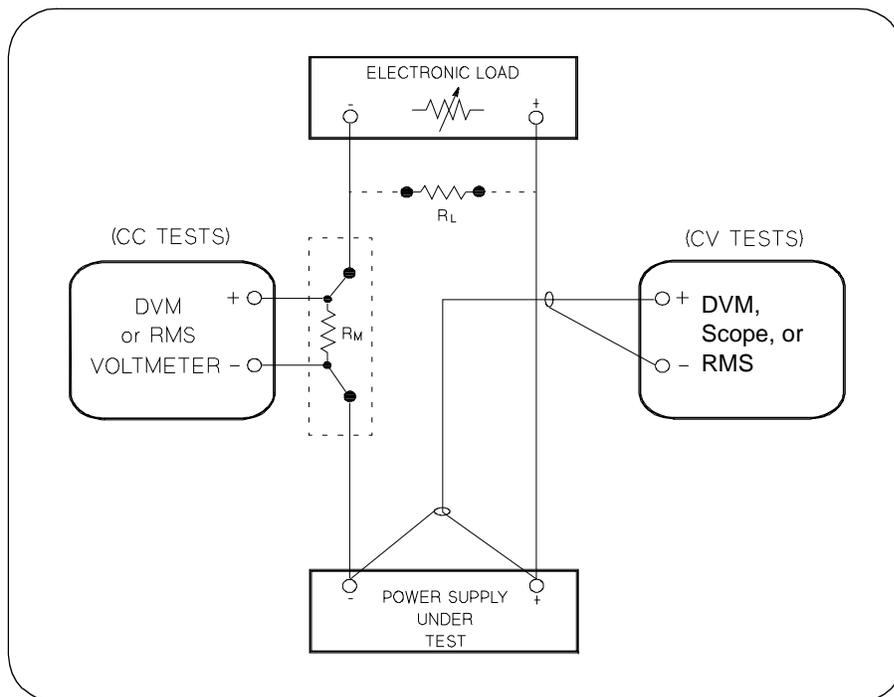

Figure A-1 Performance Verification Test Setup
Most tests are performed at the front terminals as shown in Figure A-1. Measure the dc voltage directly at the (+) and (-) terminals on the front panel.
To eliminate output current measurement error caused by the voltage drops in the leads and connections, connect the current monitoring resistor between the (-) output terminal and the load as a four-terminal device. Connect the current-monitoring leads inside the load-lead connections directly at the monitoring points on the resistor element (see R_M in Figure A-1).
- 1 Turn off the power supply and connect a digital voltmeter between the (+) and (-) terminals of the output to be tested as shown in Figure A-1.
- 1 Turn off the power supply and connect a digital voltmeter between the (+) and (-) terminals of the output as shown in Figure A-1.
- 4 Operate the electronic load in open mode (input off). Record the output voltage reading on the digital voltmeter immediately. The difference between the digital voltmeter readings in steps (3) and (4) is the CV load regulation. The difference of the readings during the immediate change should be within the limit of (5 mV)^{*} or (9 mV)^{**}.
- 6 Adjust the transformer to high line voltage (127 Vac for nominal 115 Vac, 110 Vac for nominal 100 Vac, or 253 Vac for nominal 230 Vac). Record the voltage reading on the digital voltmeter immediately. The difference between the digital voltmeter readings in steps (5) and (6) is the CV line regulation. The difference of the readings during the immediate change should be within the limit of (5 mV)* or (9 mV)**.
- 1 Turn off the power supply and connect the output to be tested as shown in Figure A-1 to an oscilloscope (ac coupled) between (+) and (-) terminals. Set the oscilloscope to AC mode and bandwidth limit to 20 MHz. Connect a resistive load (13.5Ω)[‡] to the terminal at (B) as shown above.
- 1 Turn off the power supply and connect the output to be tested as shown in Figure A-1 with an oscilloscope. Operate the electronic load in constant current mode.
- 1 Turn off the power supply and connect a 0.01 Ω current monitoring resistor (R_{M1}) across the output to be tested and a digital voltmeter across the current monitoring resistor (R_{M1}) as shown in Figure A-1.